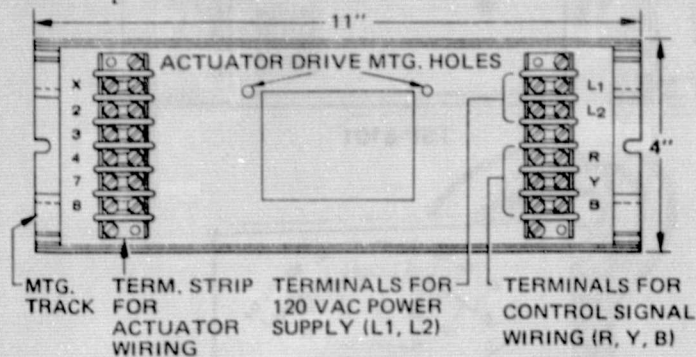

Figure 3. AD 8951 Mounting Assembly
Panel mounted drive – the AD 8951 panel mounting assembly (see Fig. 3) provides the best method of panel mounting the CP 8301 actuator drive and is recommended. Simply remove the two CP 8301 cover screws, re-insert them through holes in mounting assembly and back into their original position thus fastening the mounting assembly securely to the actuator drive. Install mounting track to panel and snap the AD 8951 into track, connect wires to correct terminals to complete panel mounting procedures. Remove two (2) mounting nipples and insert two (2) rubber grommets (supplied with AD 8951 kit) into same holes to protect wires.